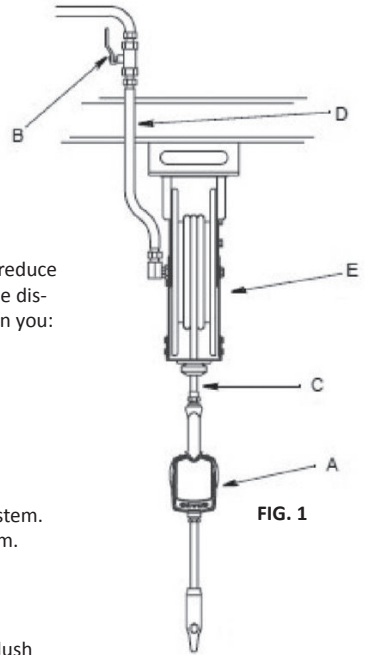

FIG. 1
FIG. 1 shows a typical hose reel installation.
1. Close the fluid shutoff valve (B, FIG. 1) at each dispense position.
5. Slowly open the shutoff valve (B, FIG. 1) at the dispense position. Flush out a sufficient amount of oil to ensure that the entire system is clean. Close the valve.
2. Open all dispense position shut-off valves (B, FIG. 1) and start the pump to pressurize the system. See Operation, for proper operation of meter. To ensure dispensing accuracy, purge all air from the fluid lines and dispense valve before you use it.